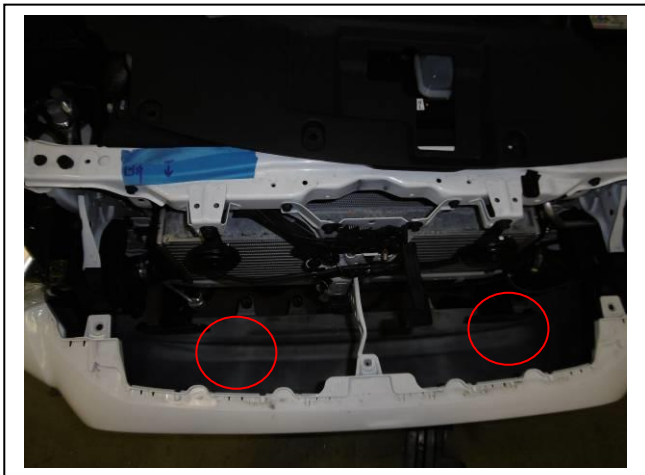

Figure 3
5. From bumper behind grille, remove two plastic push pull clips. **See figure 3.**